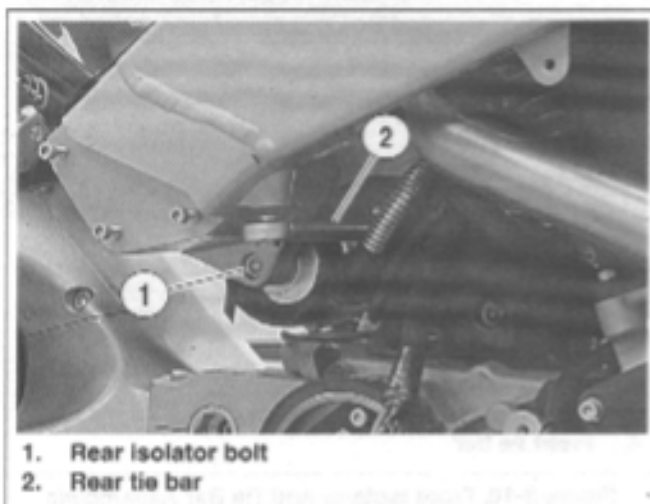

Figure 3-7. Rear Isolator Bolt and Rear Tie Bar
21. See Figure 3-7. Remove rear tie bar from frame.